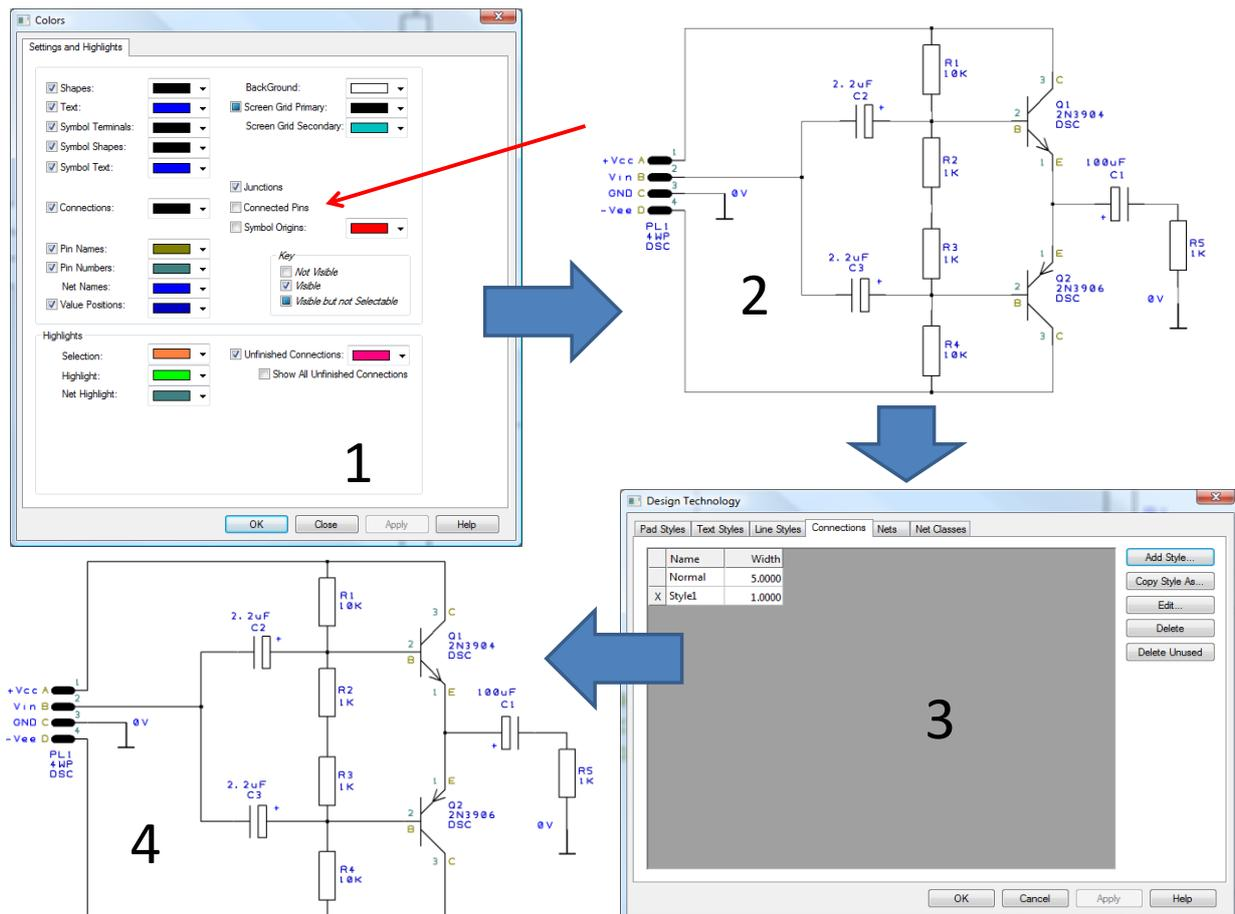

Figure 6-19: Generating Schematics Styles
5. After connecting the components, you will see that the connections are shown with a cross. It is good practice to use the cross to indicate unconnected pins, so we will switch off the “Connected Pins” option as shown in the Figure 6-19 image 1.
7. It is a good idea to have the “Symbol Terminals” switch on, and the “Connected Pins” switch off in the “Colours” screen (Figure 6-19 image 1). This ensures you only see the cross on unconnected pins (image 2). This makes it easier when adding connections to the schematic, to see which pins are left to be connected.
9. In the “Design Technology” screen, select the “Connections” tab, and select the “Add Style” button (Figure 6-19 image 3).